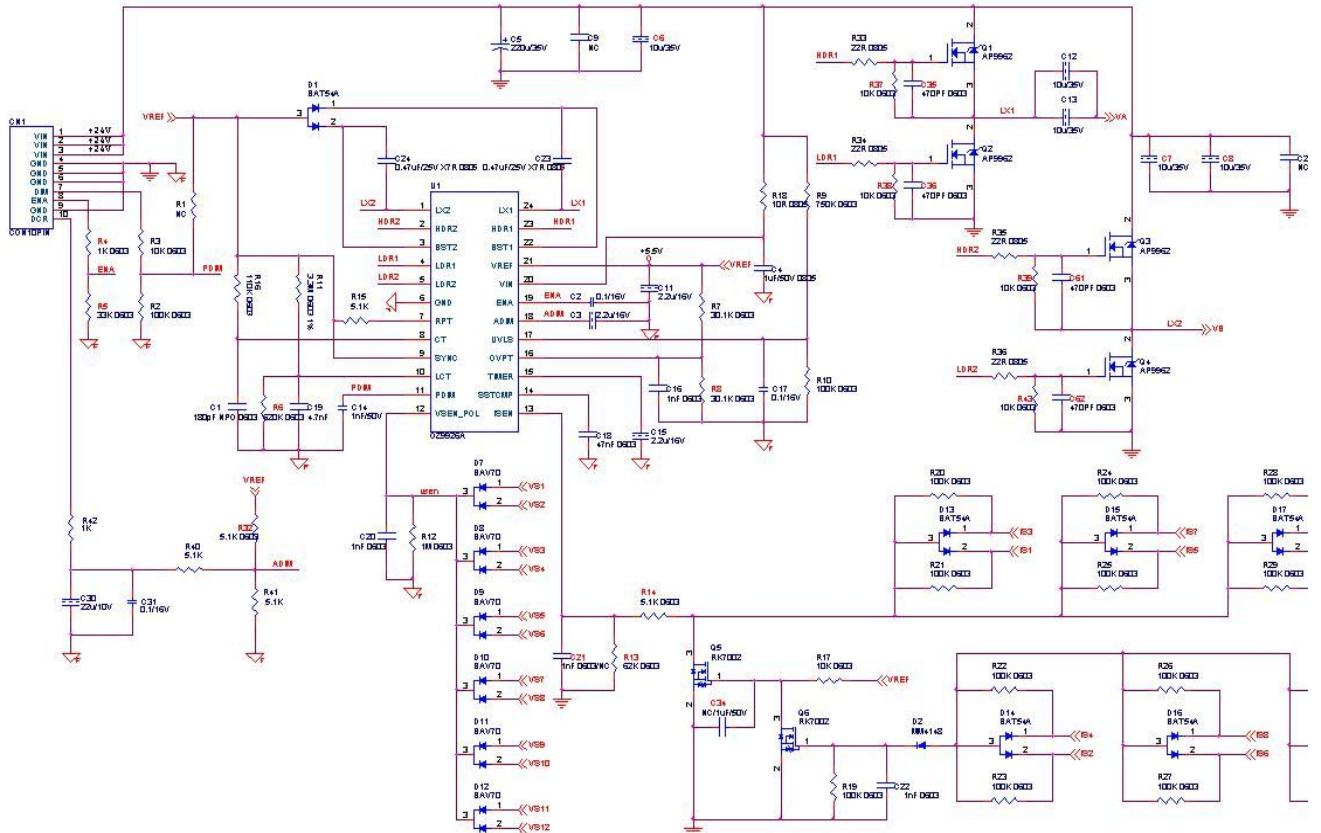

Fig.2
2.1.1) Inverter Control circuit:(fig.2)